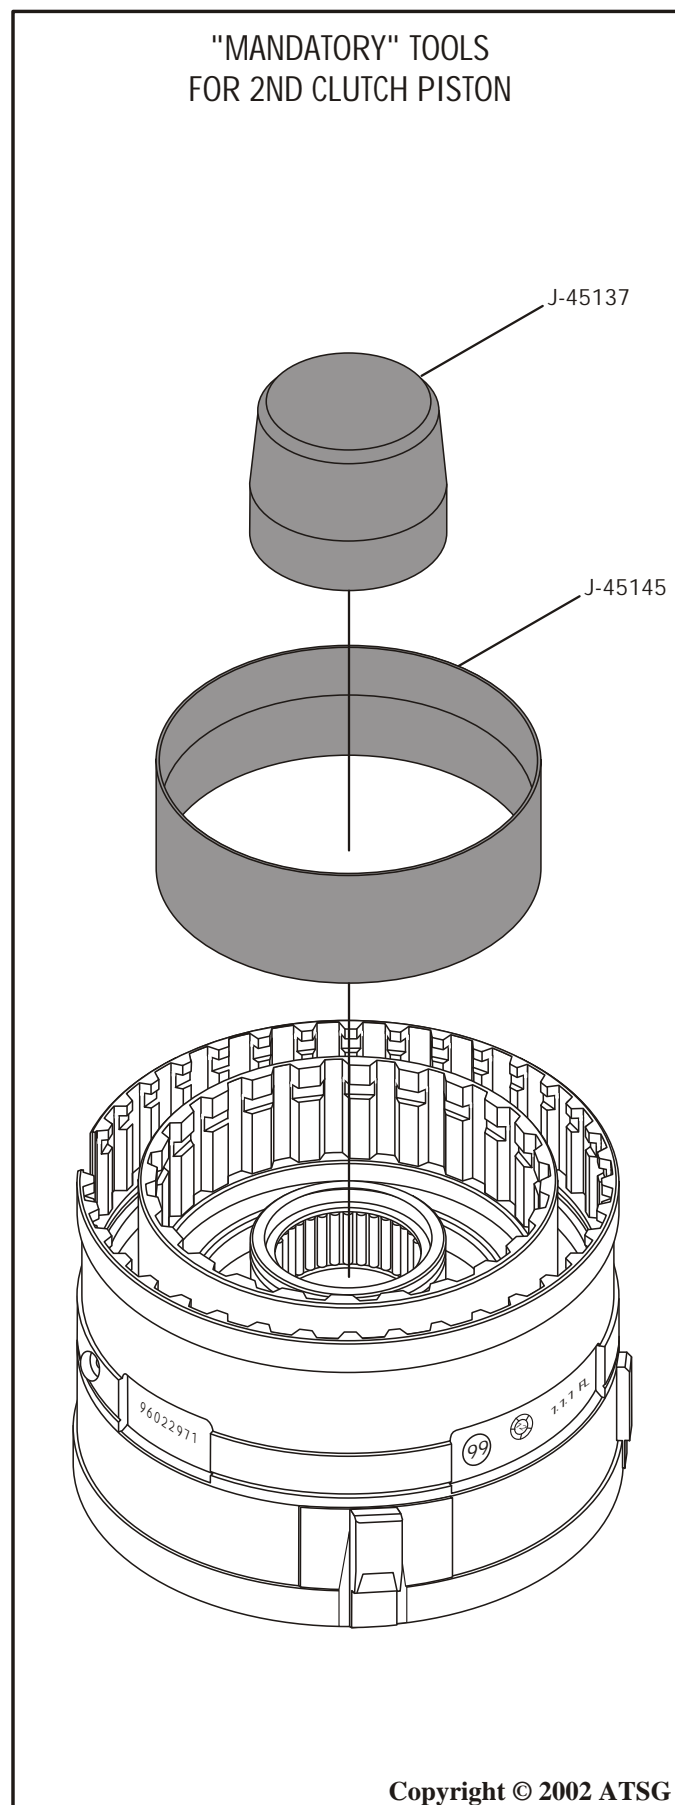

Figure 139
16. Turn the center support over, install J-45137 and J-45145 lip seal protectors, as shown in Figure 139.